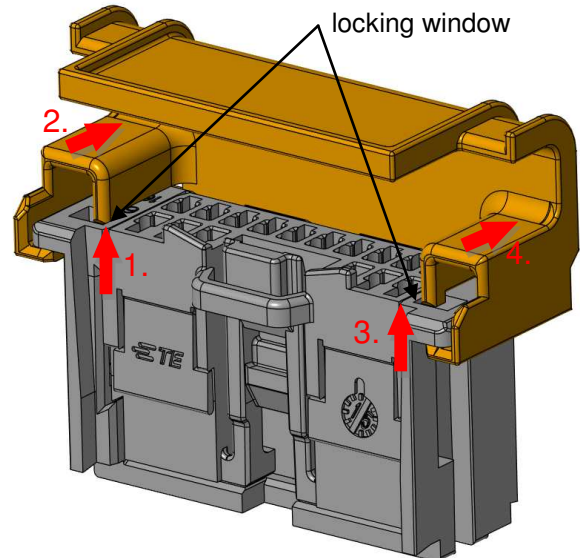

Figure 16: Unmating of Wire Dress Cover
2. Press one locking latch on one side with a small screwdriver away from the locking window (see 1. step in Figure 16).
3. Push simultaneous the cover gently in the direction 2. as shown in Figure 16, until the locking latch is released.